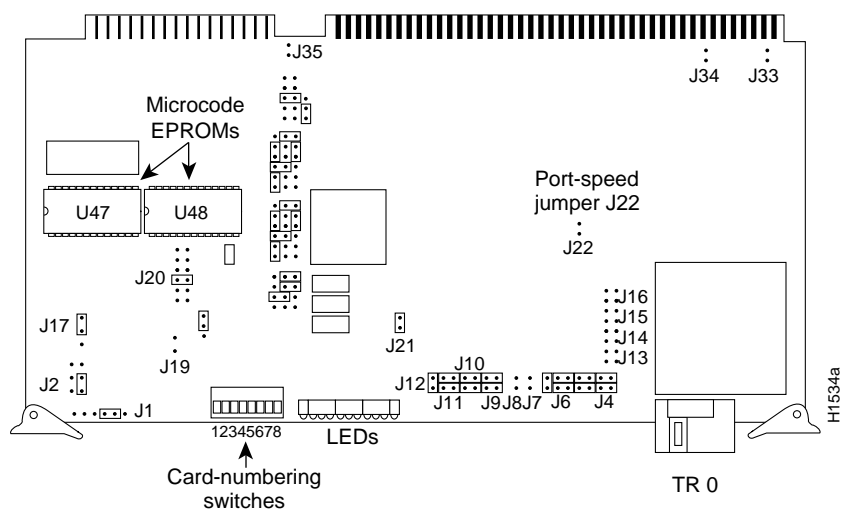

Figure 5-29 CSC-R16M Token Ring Interface Card—Component-Side View
- CSC-R16M Token Ring interface card, Figure 5-29